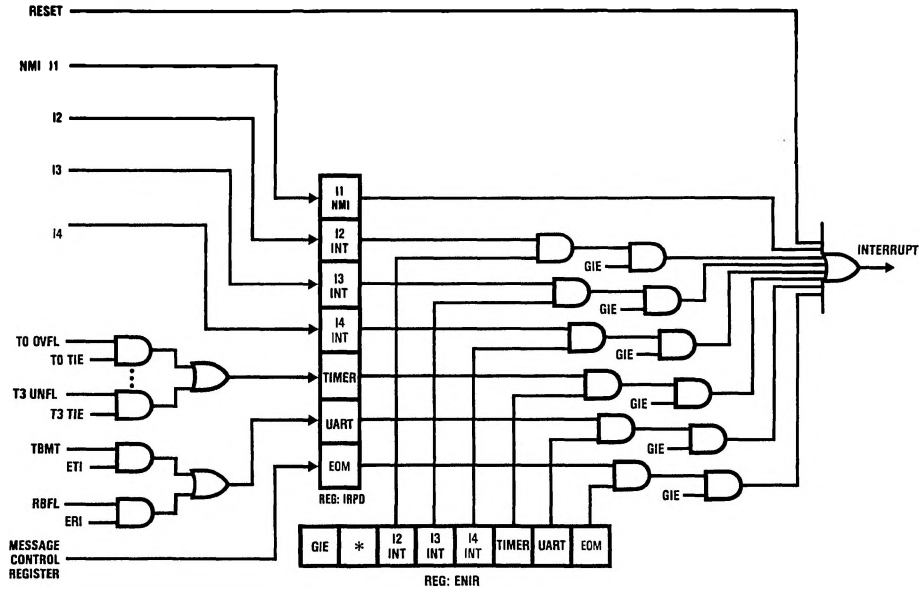

FIGURE 10. Interrupt Enable Logic
The Interrupt, once acknowledged, pushes the program counter (PC) onto the stack thus incrementing the stack pointer (SP) twice. The Global Interrupt Enable (GIE) bit is reset, thus disabling further interrupts. The program counter is loaded with the contents of the memory at the vector address and the processor resumes operation at this point. At the end of the interrupt service routine, the user does a RETI instruction to pop the stack, set the GIE bit and return to the main program. The GIE bit can be set in the interrupt service routine to nest interrupts if desired. Figure 10 shows the Interrupt Enable Logic.